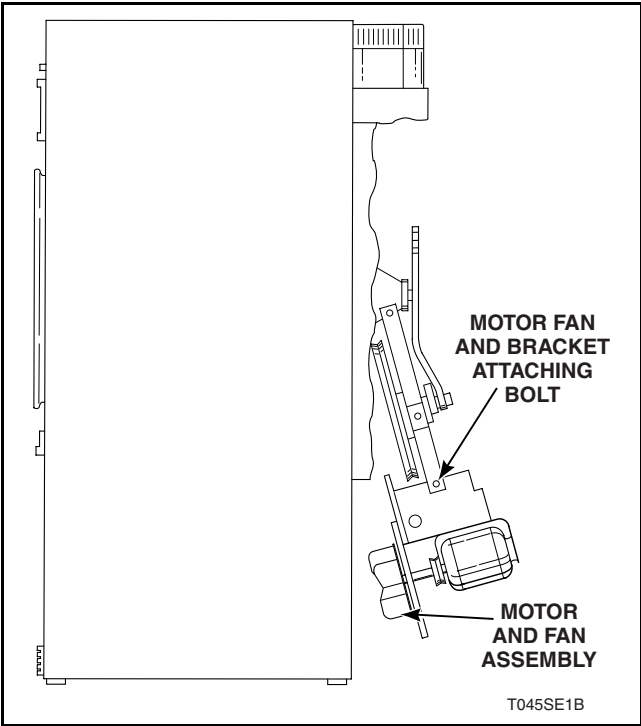

Figure 37
- i. Using the guide rails as support, swing motor and fan assembly out and away from rear of tumbler. Refer to *Figure 37*.
- j. While supporting motor and fan assembly, remove the lower guide rail bolt. Refer to *Figure 37*.
- k. Remove the four sets of nuts, washers and bolts holding mounting bracket to motor. Refer to *Figure 37*.